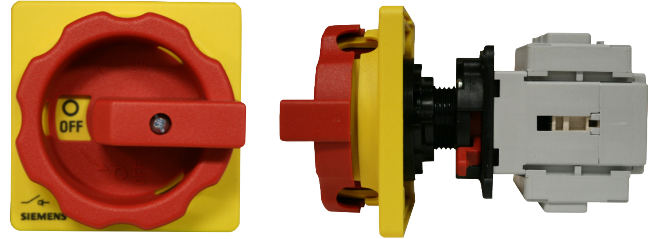

Figure 2
1. Electrician to run power from Main Power Line to Disconnect. For single phase units use T1 and T2. For three phase units use T1, T2 and T3. Use knockout directly below Disconnect. (Fig. 2)